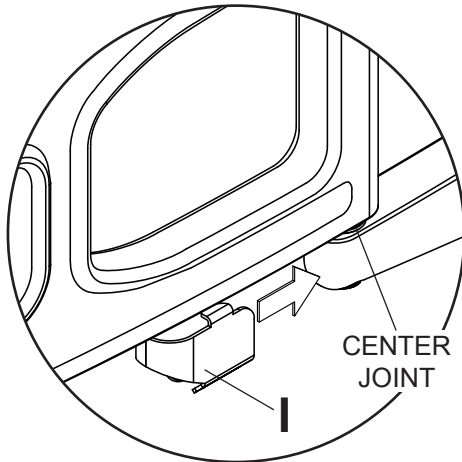

fig. 5.1
- 5 Cables may be routed using cable clip (I).
- Slip cable clip (I) onto bottom of center joint as shown in figure 5.1 and secure cables to cable clip using cable tie (J) as shown in figure 5.2.
- Secure cables to bottom of wall plate using cable tie (J) as shown below.